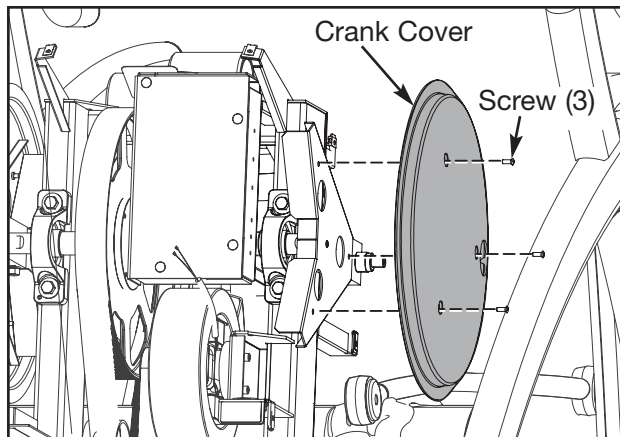

Figure 6
- A. Using a Phillips head screwdriver, remove the three screws securing each crank cover in place. See Figure 6.
- B. Using a Phillips head screwdriver, attach the three screws securing each crank cover in place. See Figure 6.